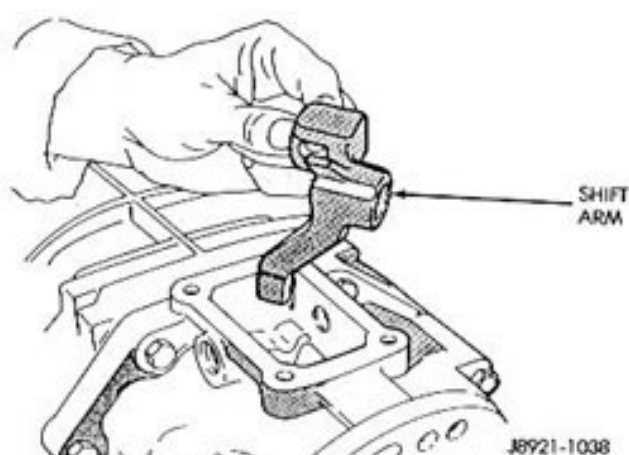

Fig. 8 Shift Arm Removal/Installation
(9) Remove the shift arm (Fig. 8).